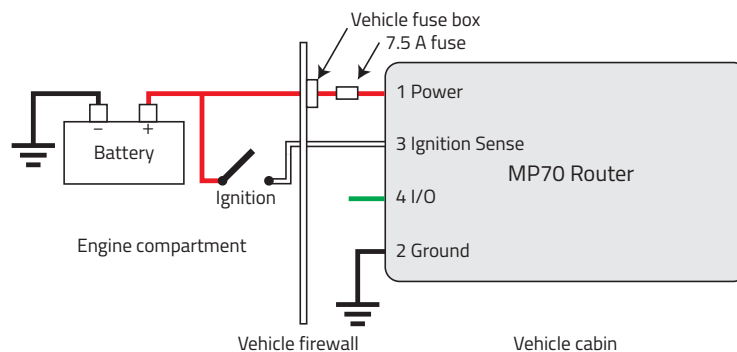

Figure 2-5: Vehicle Installation Option 1
6. Use a 7.5 A, fast blow fuse, recommended to have no more than $\pm 10\%$ de-rating over the operating temperature range, to connect the red (power) wire on the DC power cable to the vehicle's fuse box. (See Figure 2-5.)